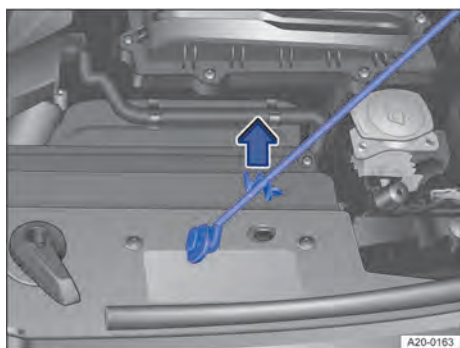
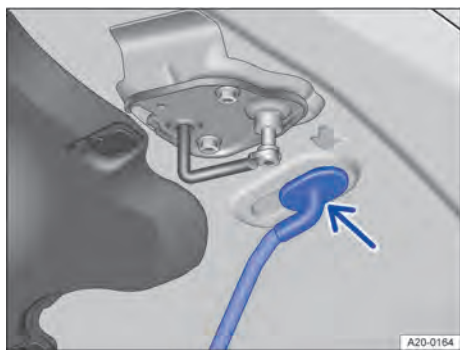

Fig. 205 In the bonnet space: bonnet stay in holder.
Fig. 206 On the bonnet: holder for bonnet stay.
4. Take the bonnet stay out of the holder → Fig. 205 in the direction of the arrow and insert it into the opening → Fig. 206.
2. Unhook the bonnet stay from the opening → Fig. 206 and clip it into the holder → Fig. 205.